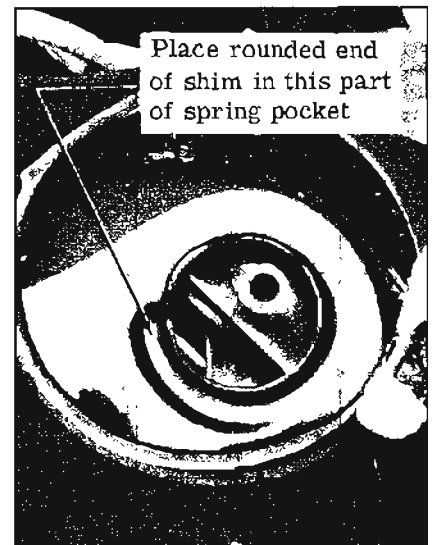

Figure 7-26—Spring Seat Location
4. Install spring in car. CAUTION: Be certain that end of shim is seated in groove as shown in Figure 7-26.